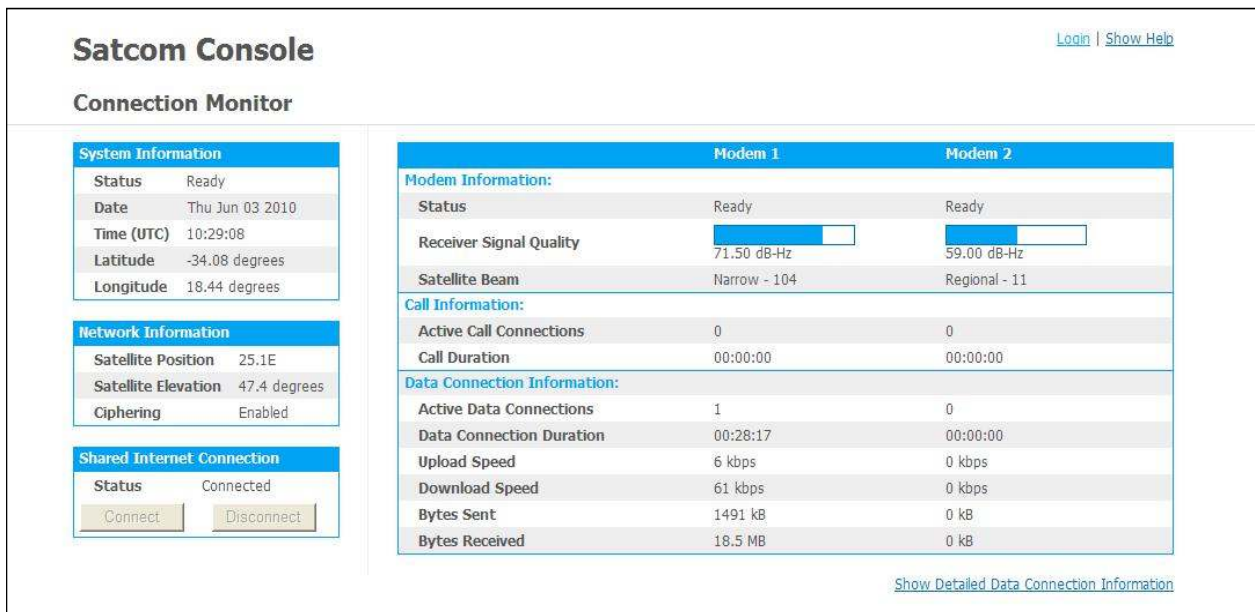

Figure 11-1: Satcom Console [Connection Monitor] page
2. If connected to the maintenance Ethernet port, start a JavaScript enabled web browser (Internet Explorer was used in the example below). Type '**http://10.0.1.100/**' in the web browser's address field. The *[Connection Monitor]* appears as shown in Figure 11-1.